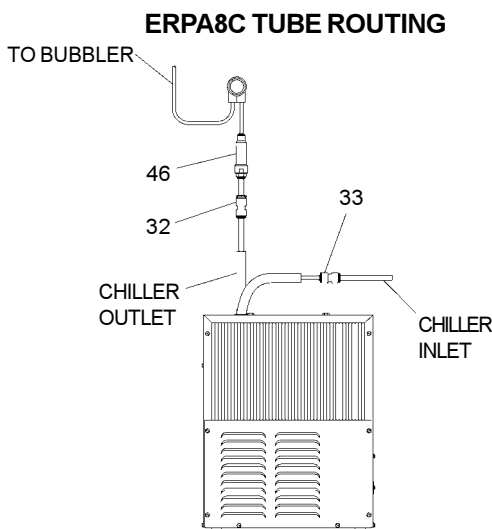

FIG. 7
3. **ERPA MODELS:** Make connection between remote chiller and building supply line. Inlet port is marked on the chiller (1/4" O.D. copper tube). Bend the copper tube (provided) at an appropriate length from chiller to opening in frame. Install a 1/4" x 3/8" union (provided) on the marked chiller inlet port. Connect building supply line to union. (See Figure 7)
5. **Install** the fountain. Remove access cover plate on underside of fountains and save the screws. Mount the fountain to the upper panel and the wall frame with (4) 5/16" x 1 3/4" (44mm) long bolts and nuts (provided). Install spacers on bottom two bolts. Tighten securely.
7. **ERPA MODELS:** Make connections between remote chiller outlet tube and fountain strainer. Outlet port is marked on the chiller (3/8" O.D. copper tube). Install a 3/8" x 3/8" union (provided) on the marked chiller outlet port. Insert the 3/8" unplated copper water line (provided) into the union and the inlet side of the strainer by pushing it in until it reaches a positive stop, approximately 3/4" (19mm). Connect 1/4" copper tubing coming from fountain to the strainer. Turn on water supply and check for leaks. **DO NOT SOLDER TUBES INSERTED INTO THE STRAINER AS DAMAGE TO THE O-RINGS MAY RESULT.** (See Figure 7).